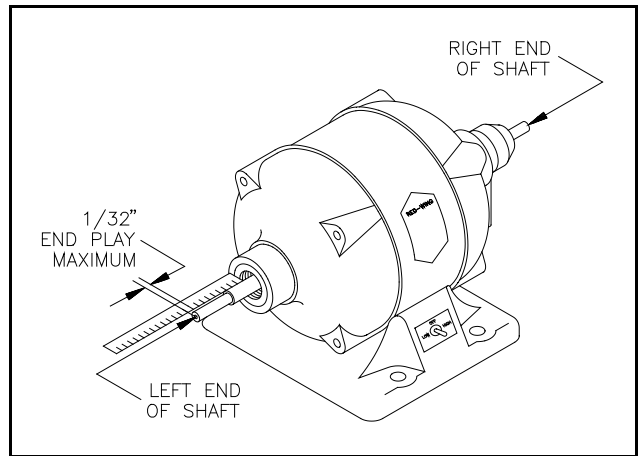

Figure 4. Shaft end play
- 4.2 If a Super Quick Chuck is **not** installed on the right side of the lathe, push on the right end of the shaft while measuring the protrusion of the left end. See Figure 4. You may need an assistant to push the shaft while you measure. If the end play is greater than 1/32" the lathe should be shimmed; go to step 5.0.